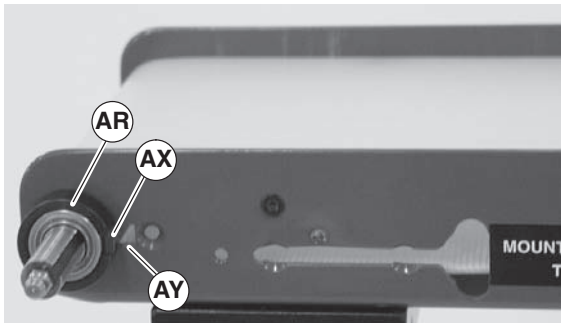

Figure 30
- Align slot (Figure 30, item AX) in outboard bearing retaining sleeve (AR) with slot (AY) in conveyor frame.